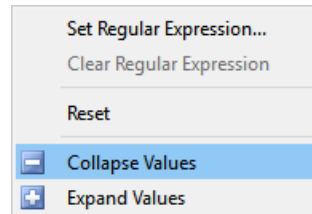

Figure 5.14: Category Filter Right-Click Menu
- Use the right-click menu to **Collapse Values**, shown in Figure 5.14.